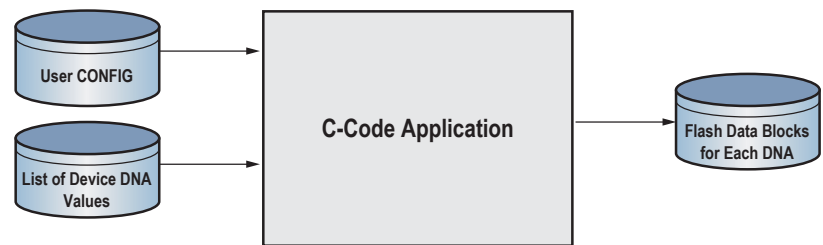

Figure 4 – Using Device DNA in a software application
1. Software application. In this case, a software application supplied by Helion models the algorithms used in the Checker to calculate the necessary additional Device DNA data. It takes in a list of authorized Device DNA values and a copy of the customer’s secret compile-time configuration and generates data sets to be placed into the systems’ non-volatile memories (see Figure 4). This application could be used remotely to generate data sets